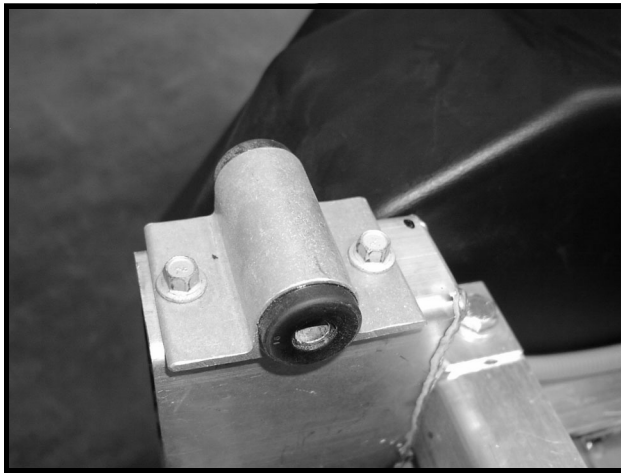

Figure 4-8 Bed Hinge
1. Remove steel bushings and urethane bushings from hinge brackets (**Figure 4-8, Page 4-8**).